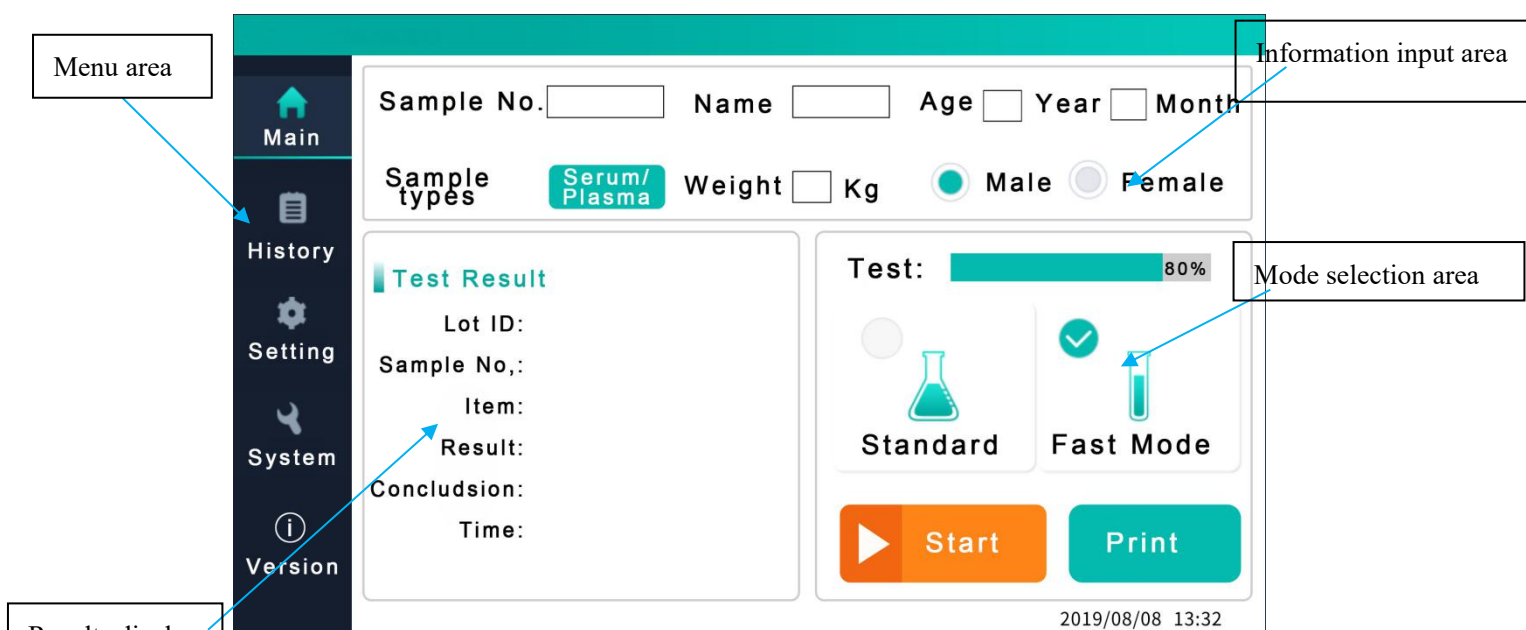

Fig 5.2 Fast Test interface
V.1.4 **Fast Test** interface will be showed by default when you turn on **Immunofluorescence Analyzer** at the first time. After that, the power-on interface will show the test mode, which was selected by the user when the instrument was turned off last time. (See **Figure 5.2**)